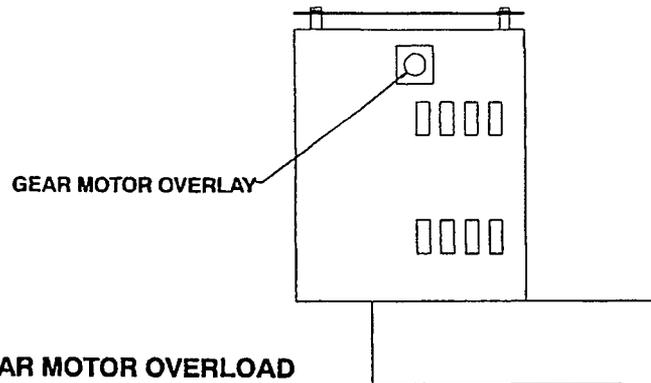

FIGURE 21. GEAR MOTOR OVERLOAD
2. Gearmotor thermal overload, manual reset type (red button on motor). See Figure 21